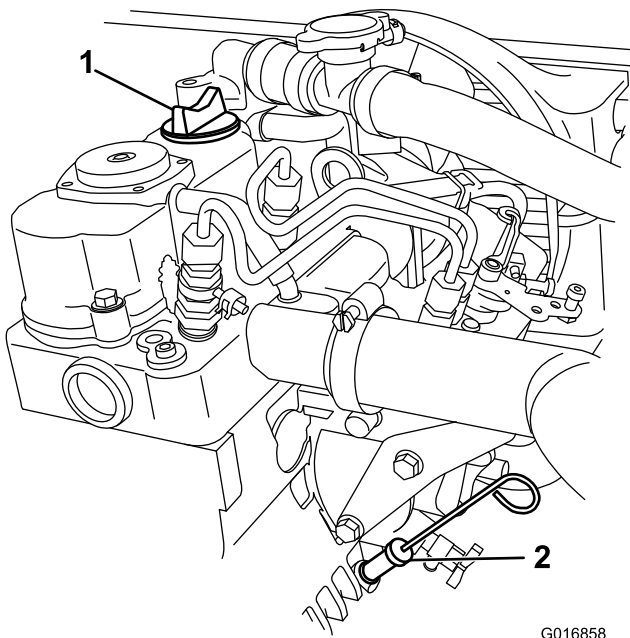

Figure 16
5. Slide the oil dipstick into the dipstick tube fully seating it (Figure 16).
6. Pull the dipstick out and look at the end (Figure 16).
7. Install the oil dipstick and firmly seat it (Figure 16).